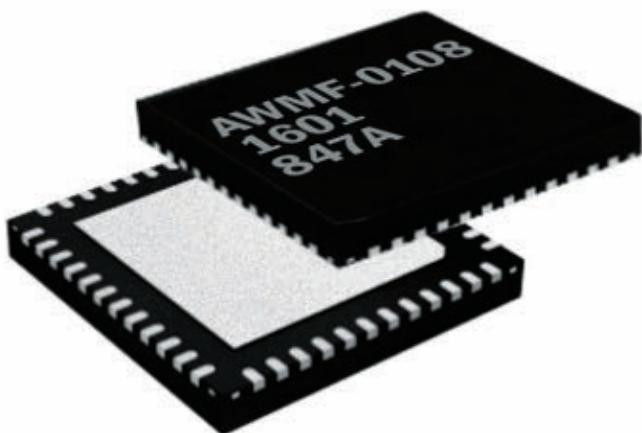

FIGURE 1. The Anokiwave IC is a complete 28 GHz Ka band millimeter wave band transceiver. It supports up to 4 x 4 MIMO and comes in a 6 x 6 mm package.
The simplest designs are typically called RTL, or Resistor Transistor Logic. A simple transistor in a saturated common emitter configuration can be used to create an inverter (see **Figure 1**). What we're basically doing in this NPN example is amplifying the input logic signal to the point where the transistor turns fully on when a logic 1 or high voltage is input, and turning it off completely when a logic 0 or low is input. In response, the collector falls when
■ FIGURE 1.
5G technology will not be with us for several more years. However, considerable development is underway to make this happen. The availability of millimeter wave integrated circuits will certainly help this movement. One such device which is available now is shown in **Figure 1**. It is a complete 28 GHz transceiver that supports up to four transmit/receive antennas. Until 5G is available in 2020 and beyond, we will just have to be comfortable with the current 4G LTE systems, and that's not a bad thing at all.